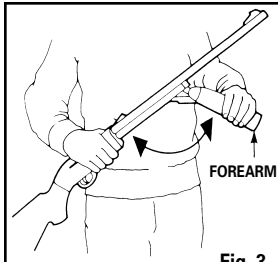

Fig. 3
- Open the forearm all the way until it stops (Fig. 3). Be sure to hold the forearm firmly as you open it. It could spring back into the closed position, possibly causing injury. Place your hands in the same positions shown in Fig. 3 in order to avoid being pinched, should you lose hold of the forearm. Do not twist the forearm while pumping. Use straight strokes to prevent breakage.